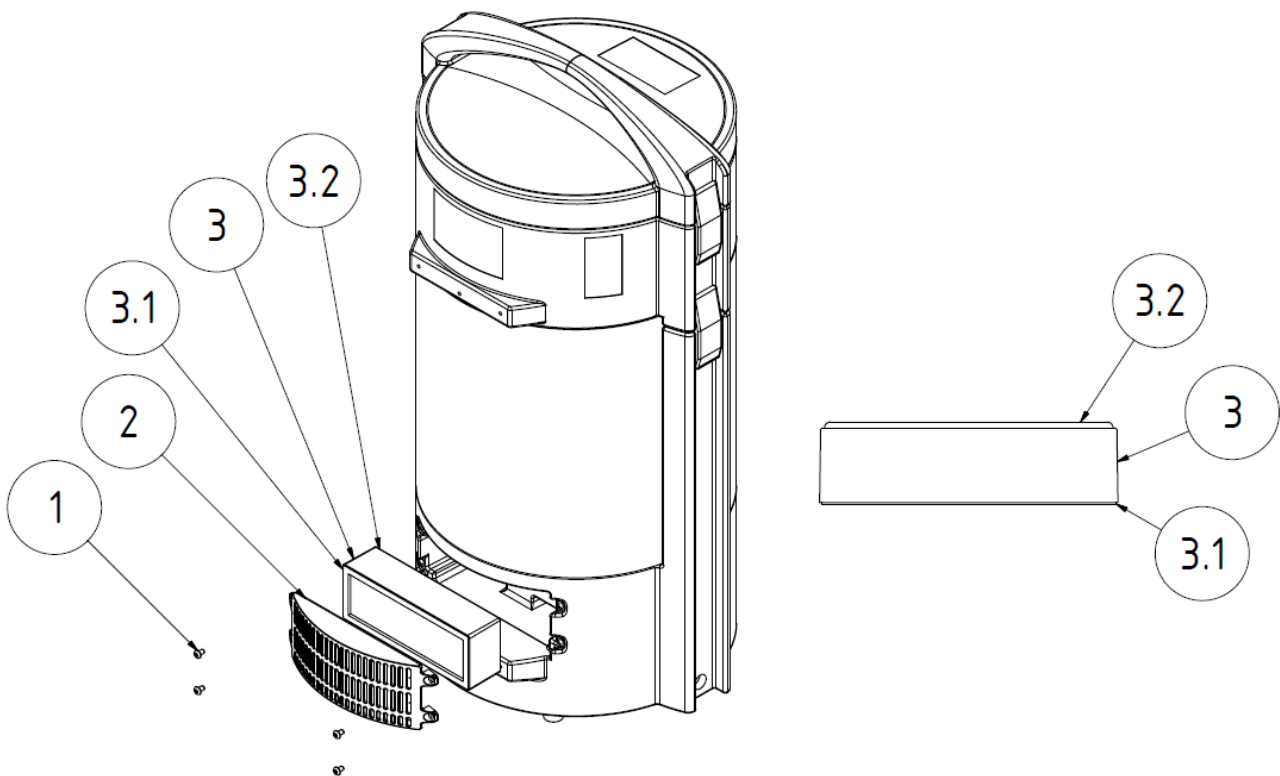

Figure 5, Suspended matter filter replacement
- Undo the screws (Fig. 5, Pos. 1) anchored to the floor.
- Now remove the covers (Fig. 5, Pos. 2).
- Now place the new suspended matter filter in the MiniFil. While doing so, ensure that the foamed seal labelled in Fig. 5, Pos. 3.2 faces the inside of the device as can be seen in the figure.